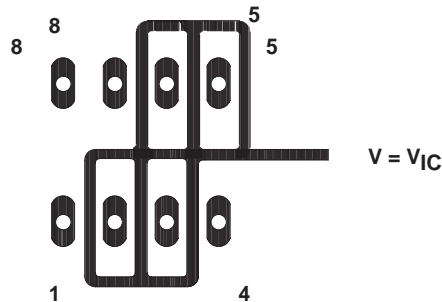

Figure 4. Isolation Metal Around Device Inputs (JG and P packages)
1. Isolate the device from other potential leakage sources. Use a grounded shield around and between the device inputs (see Figure 4). Leakages that would otherwise flow to the inputs are shunted away.